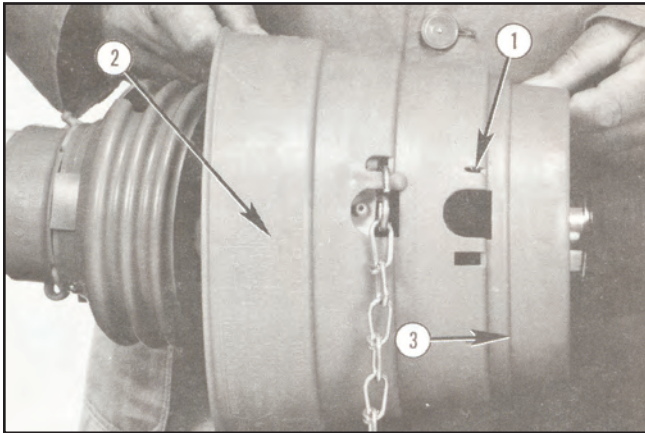

FIGURE 88
1. Refer to Figures 88, 89 and 90, page 39 for removal of necessary PTO shields.